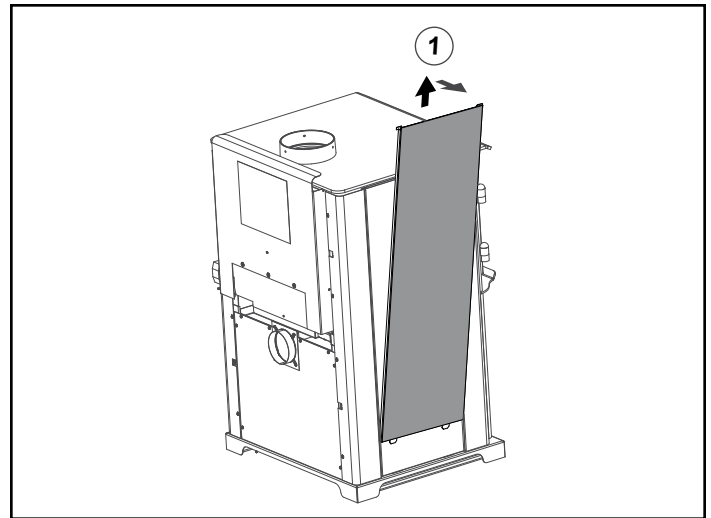

Figure 17.4
- Remove solid panel from side by lifting up and pulling away from appliance (use a flat tool to pry from bottom if needed) (**Figure 17.4**).
1. Remove tile frame from side by lifting up and pulling away from appliance (**Figure 17.4 reference solid side panel removal**).